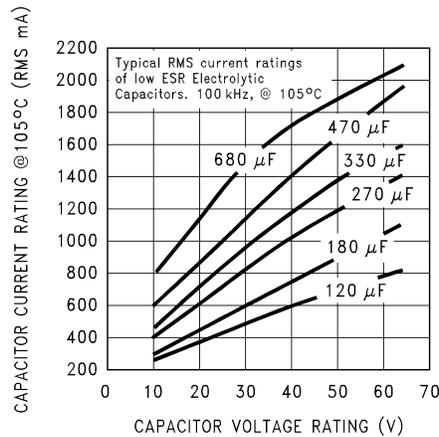

图 9-1. RMS Current Ratings for Low ESR Electrolytic Capacitors (Typical)
**Figure 9-1** shows the relationship between an electrolytic capacitor value, its voltage rating, and the RMS current it is rated for. These curves were obtained from the Nichicon *PL* series of low-ESR, high-reliability electrolytic capacitors designed for switching regulator applications. Other capacitor manufacturers offer similar types of capacitors, but always check the capacitor data sheet.